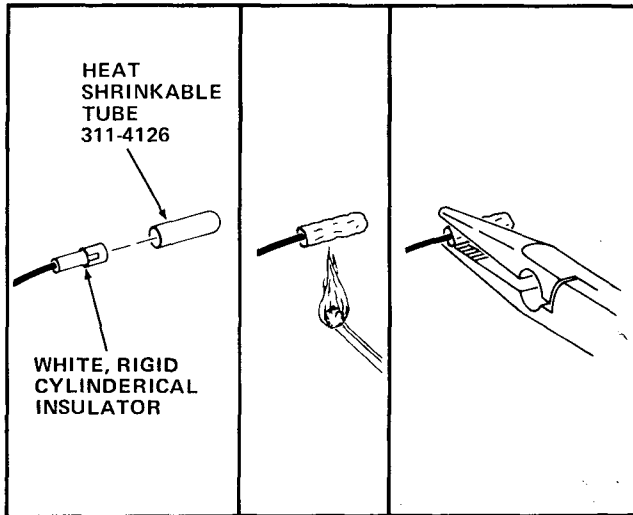

FIGURE III-4
29. Place the Heat Shrinkable Tube (part number 311-4126) over the white, rigid, cylindrical Insulator on the end of the third Black Wire on the Icemaker Motor Cable Assembly. See Figure III-4.